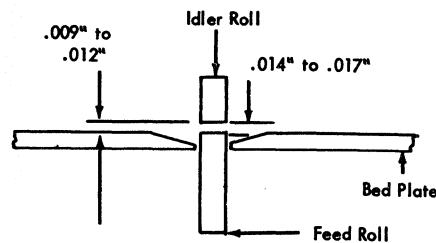

Figure 103. Auxiliary Feed and Idler Roll Adjustment
2. Position idler roll .009-inch to .012-inch above read station bed plate by moving idler roll mounting plate (Figure 103).
4. Move magnet assembly up or down mounting bracket to obtain .014-inch to .017-inch clearance between feed roll and its idler roll (Figure 103).